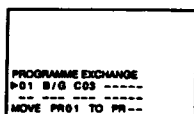

Fig. 9
- 3 Select "PROGRAMME EXCHANGE" with  $\Delta$  or  $\nabla$  and press OK. The PROGRAMME EXCHANGE menu appears. (See Fig. 9.)